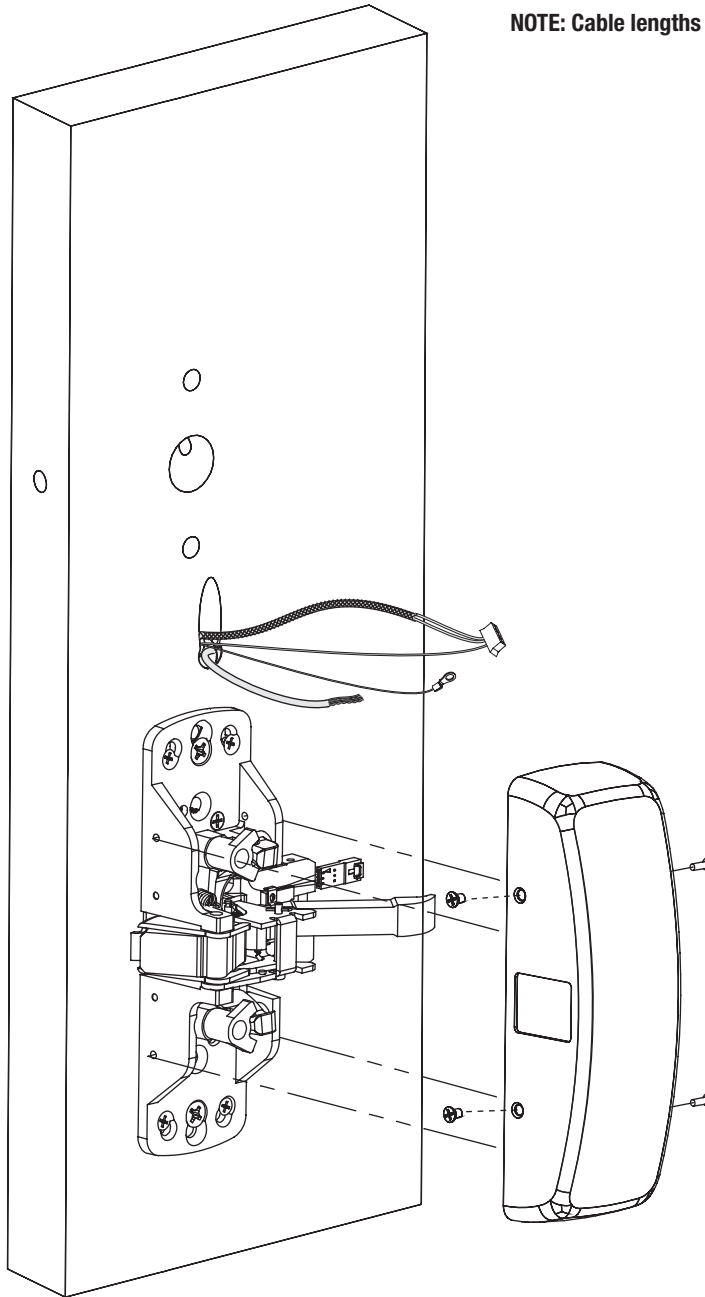

Fig. 7
Secure chassis cover to chassis using (4) #8-32 x 5/16" oval head machine screws (Fig. 7).